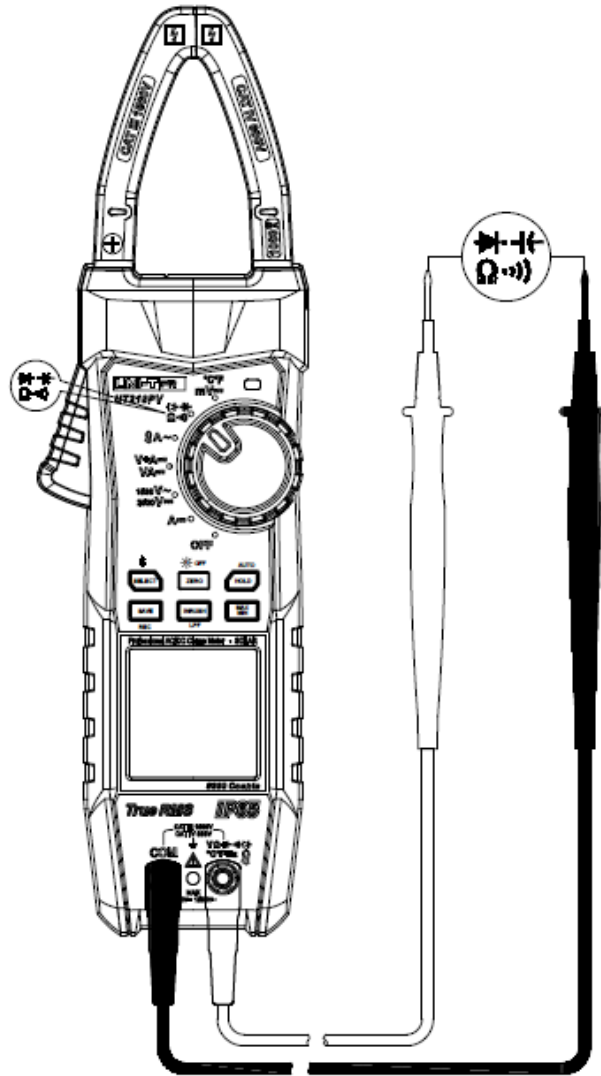

Figure 10
5. Resistance measurement (Figure 10)
6. Diode measurement (Figure 10)
7. Capacitance measurement (Figure 10)